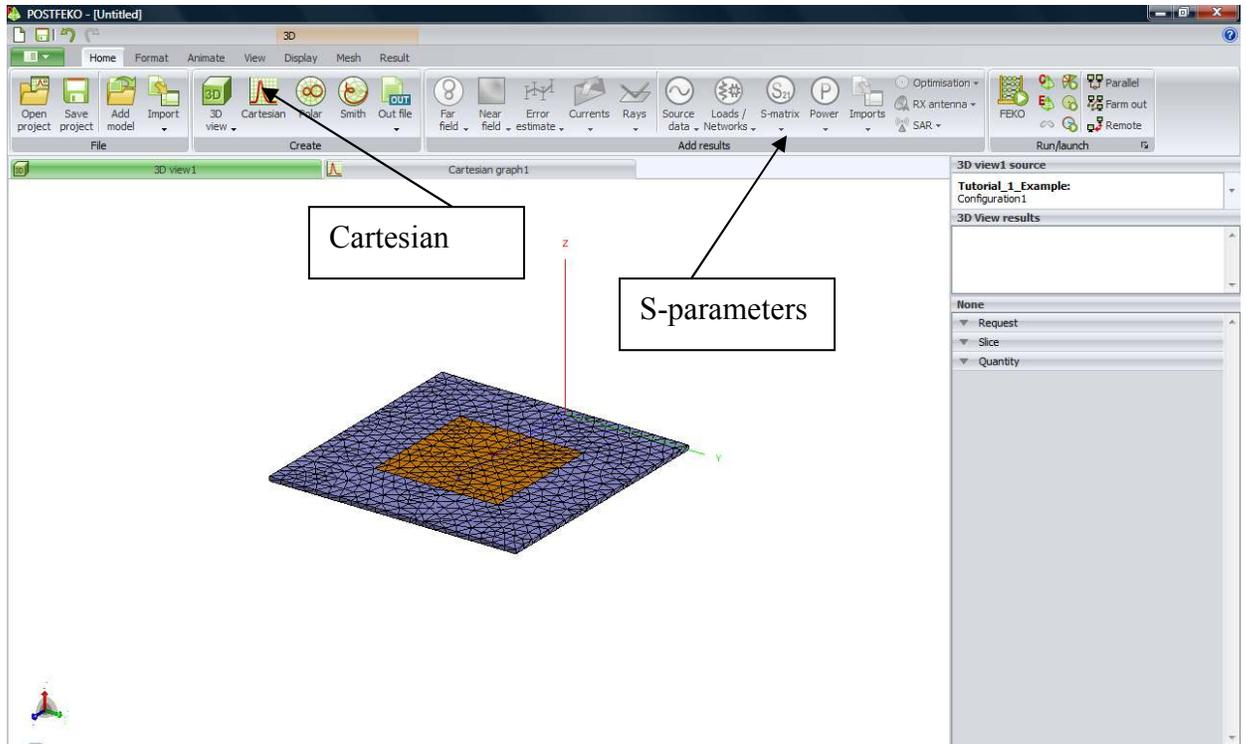

Figure 20.
26. Click on the “Cartesian” icon, and a graph with Cartesian coordinates appears. Select the “S-Matrix” icon as shown in Figure 20. You will get the $|S_{11}|$ measurement as a function of frequency. Choose the “dB” display.